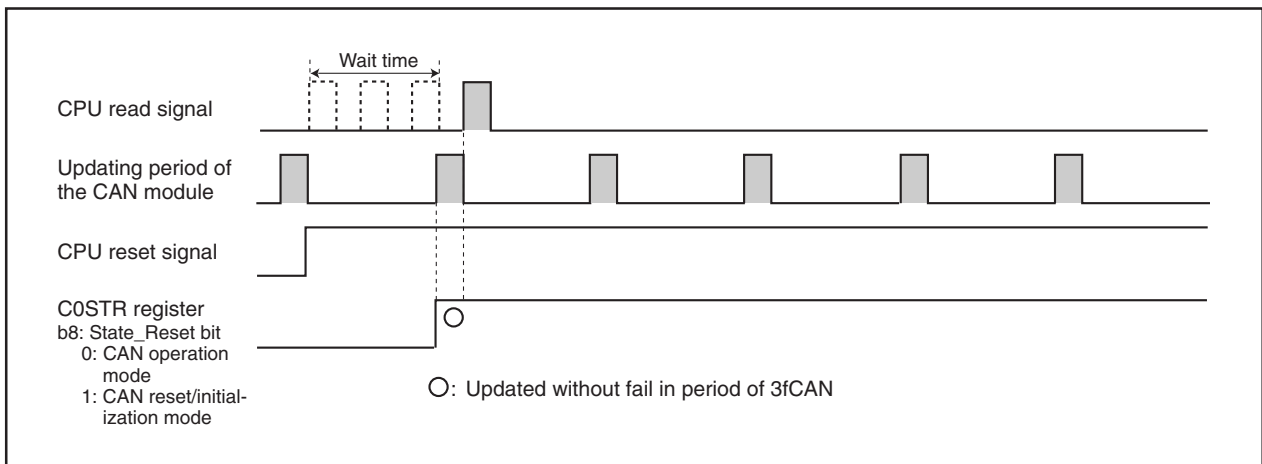

Figure 23.6 With a Wait Time of $3f_{CAN}$ Before CPU Read
- (a) There should be a wait time of $3f_{CAN}$ or longer (see **Table 23.3 CAN Module Status Updating Period**) before the CPU reads the C0STR register. (See **Figure 23.6 With a Wait Time of $3f_{CAN}$ Before CPU Read.**)